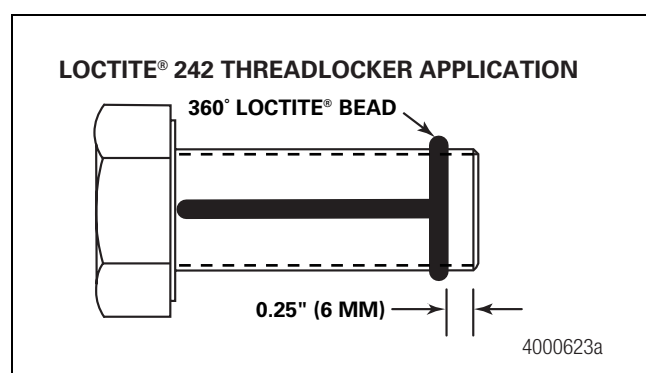

Figure 4.4
15. Apply a 0.125-inch (3mm) bead of Loctite® 242 threadlocker around the capscrew threads approximately 0.25-inch (6 mm) from the end. Apply a 0.125-inch (3 mm) bead of Loctite® 242 threadlocker across the length of the threads. Do not apply Loctite® 242 threadlocker to new capscrews with the blue pre-applied threadlocker patch. Figure 4.4.